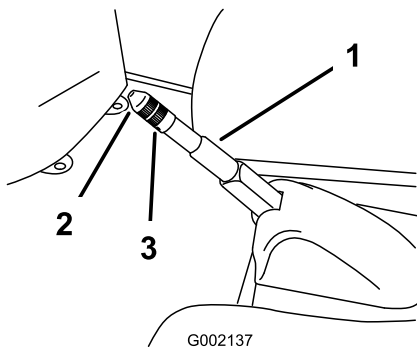

Figure 51
2. Loosen the set screw securing the knob to the parking brake lever (Figure 51).